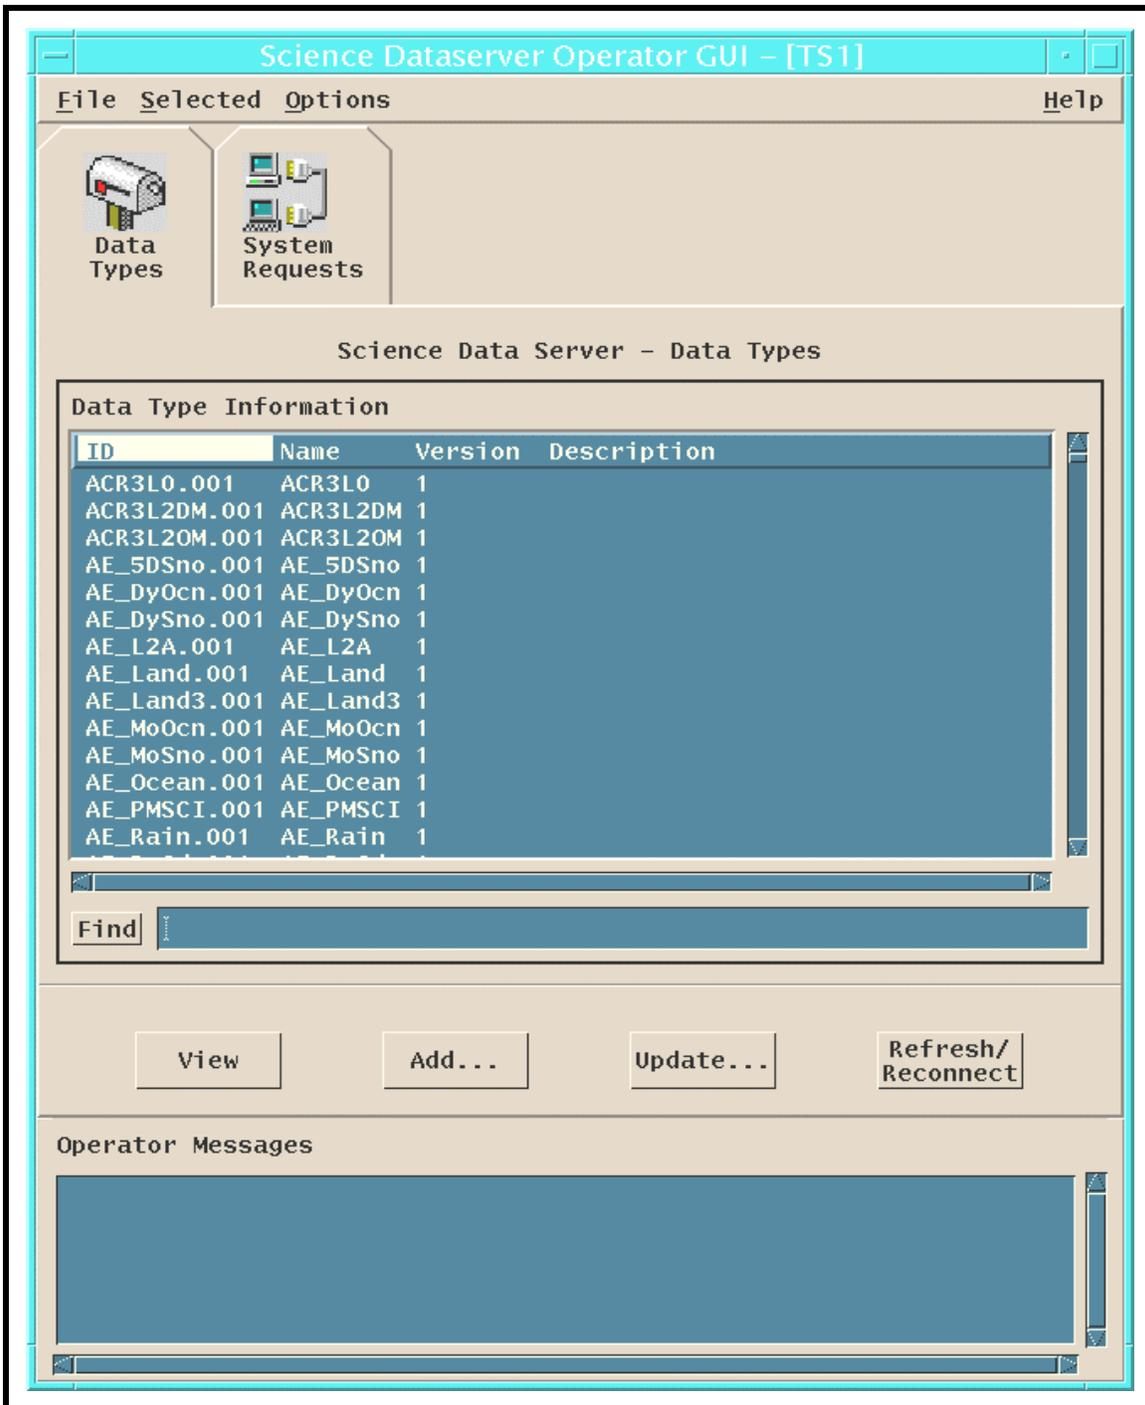

Figure 13. Science Data Server Operator GUI
- The Science Data Server GUI (Figure 13) is displayed.